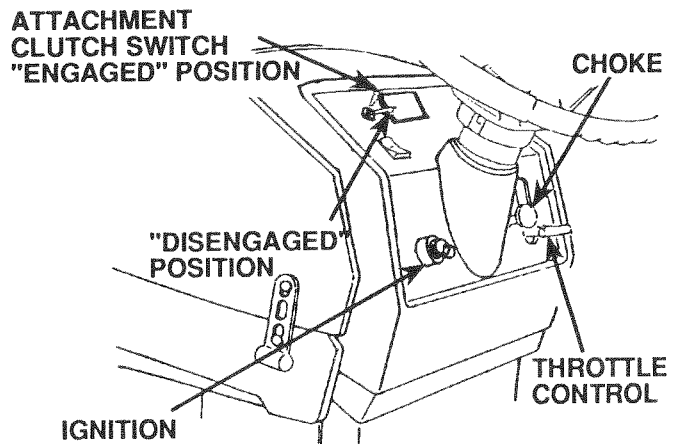

FIGURE 11
- Place Attachment Clutch Switch in "DISENGAGED" position (Fig. 11).
- a. With Engine running and warm, place Throttle Control midway between "S" (slow) and "F" (fast) position (Fig. 11).